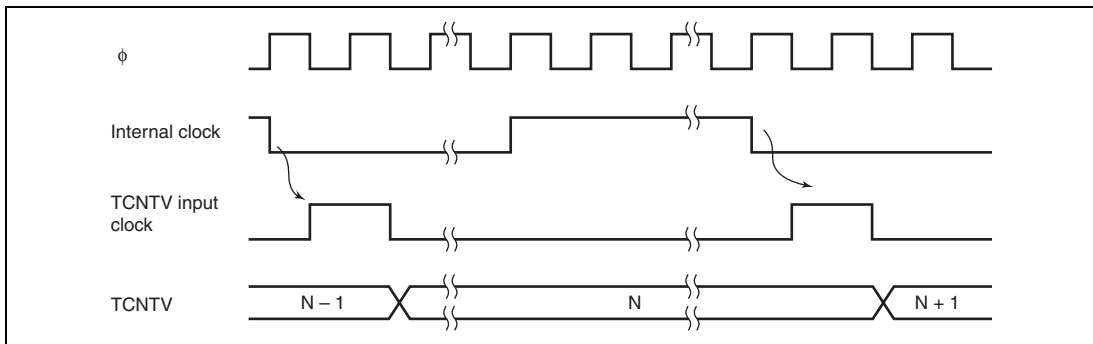
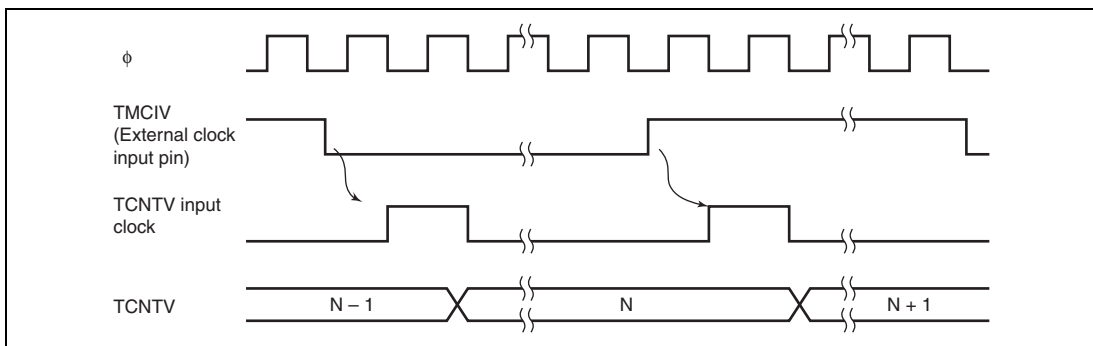

Figure 11.2 Increment Timing with Internal Clock
Figure 11.3 Increment Timing with External Clock
1. According to table 11.2, six internal/external clock signals output by prescaler S can be selected as the timer V operating clock signals. When the operating clock signal is selected, TCNTV starts counting-up. Figure 11.2 shows the count timing with an internal clock signal selected, and figure 11.3 shows the count timing with both edges of an external clock signal selected.
4. Depending on the timing, TCNTV may be incremented by a switch between different internal clock sources. When TCNTV is internally clocked, an increment pulse is generated from the falling edge of an internal clock signal that is a divided system clock (ϕ). Therefore, as shown in figure 11.3 the switch is from a high clock signal to a low clock signal, the switchover is seen as a falling edge, causing TCNTV to increment. TCNTV can also be incremented by a switch between internal and external clocks.